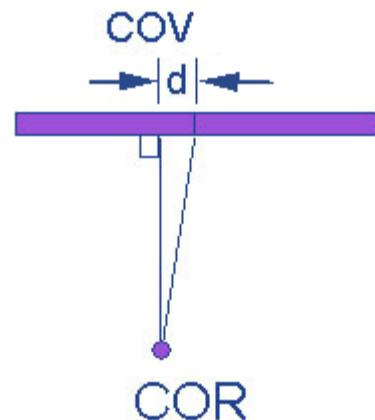

Figure 7-27
- Distance from center of rotation (COR) to the point on each detector panel where the radius line intersects the panel at a right angle. See Figure 7-27.
- Detector center of view (COV) offset. See Figure 7-27. If a detector panel is not, at its geometric center, perfectly at a right angle to the radius from the center of rotation (COR), the point on the panel at which it *is* at a right angle is offset by a particular distance (d) from the geometric center.